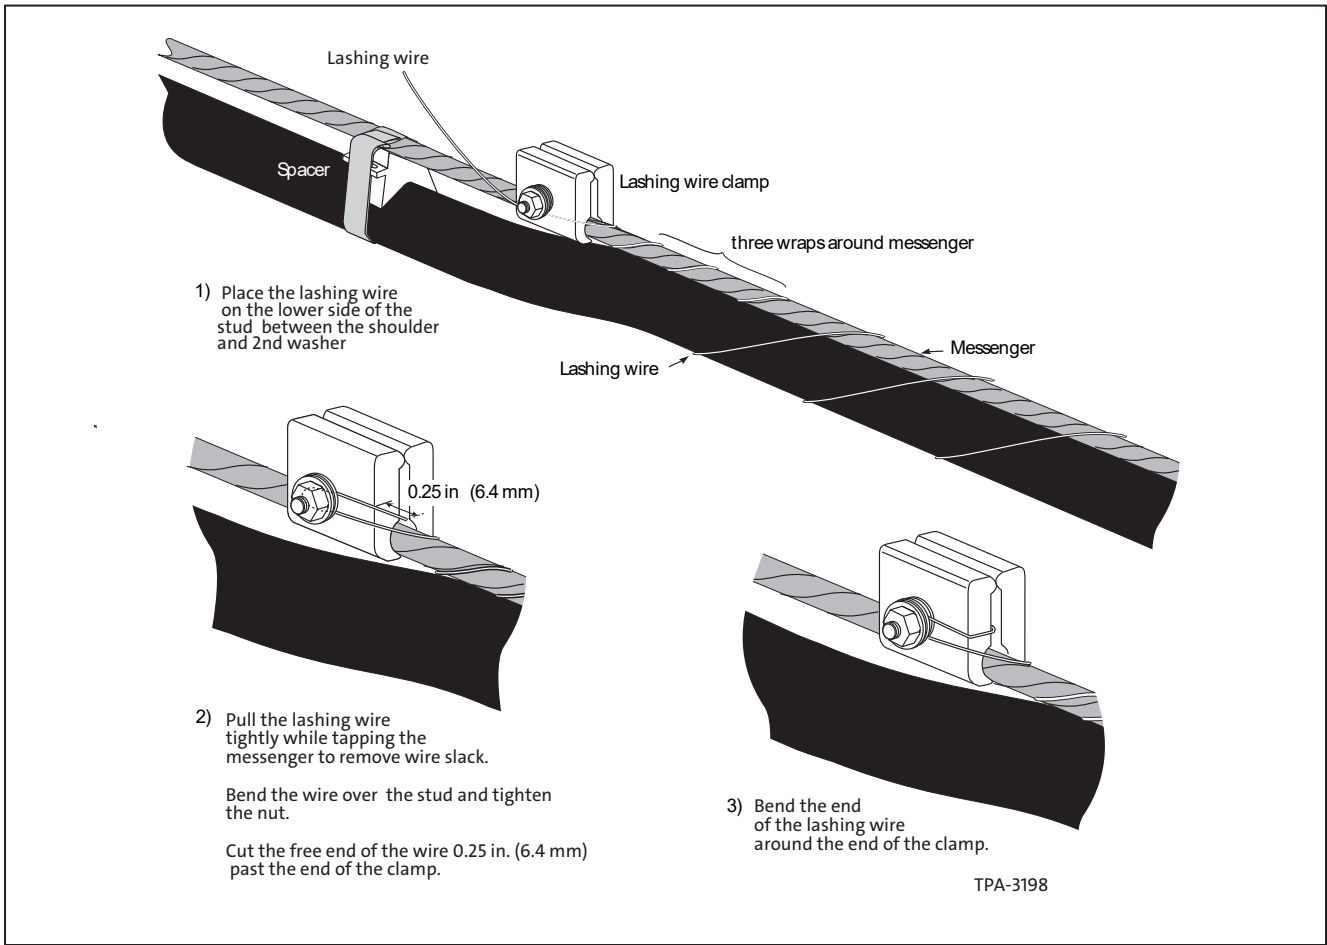

Figure 11 - Lashing wire termination
4. Corning Optical Communications recommends that as a cable run is lashed up, span-by-span, the lashing wire should be terminated at each pole with a lashing wire clamp (Figure 11). This practice will ensure that only one span of cable will be unsupported if a lashing wire is cut.
- d) Secure the wire in the clamp as shown and described in Figure 11.